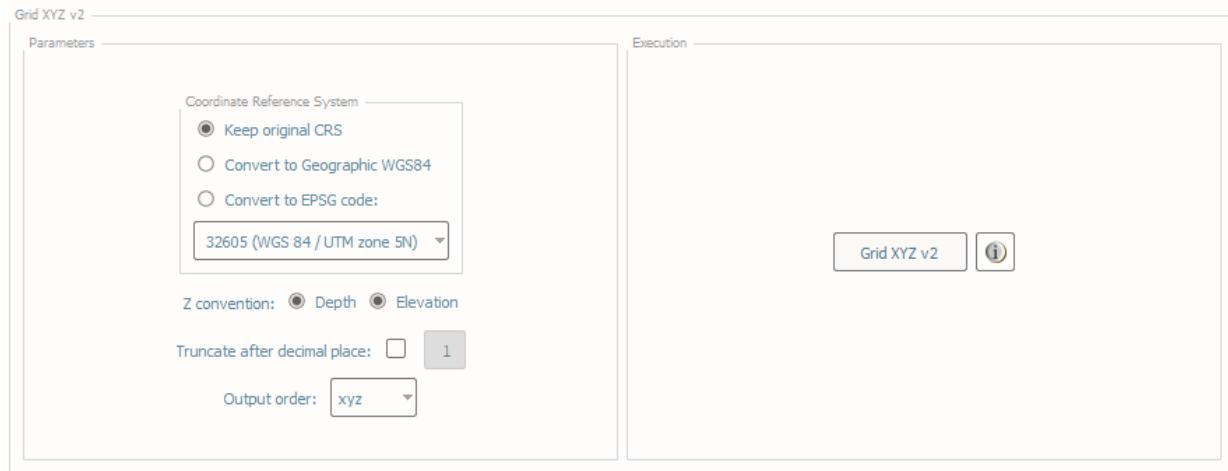

Fig. 2.65: Grid XYZ's interface.
- In **Execution** (Fig. 2.65), click **Grid XYZ v2**.